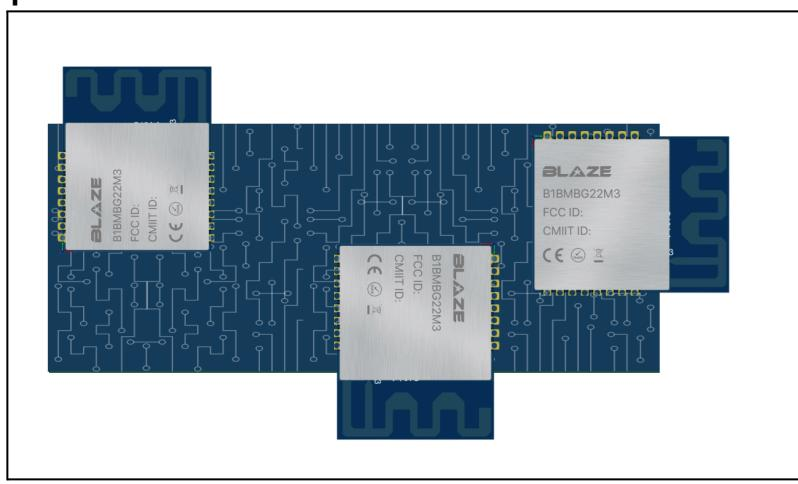

Figure 10.2. BLE Module placements with Antenna position Overhang – multiple positions
- Keep the antenna away from metal conductors as shown in Figure 10.2.